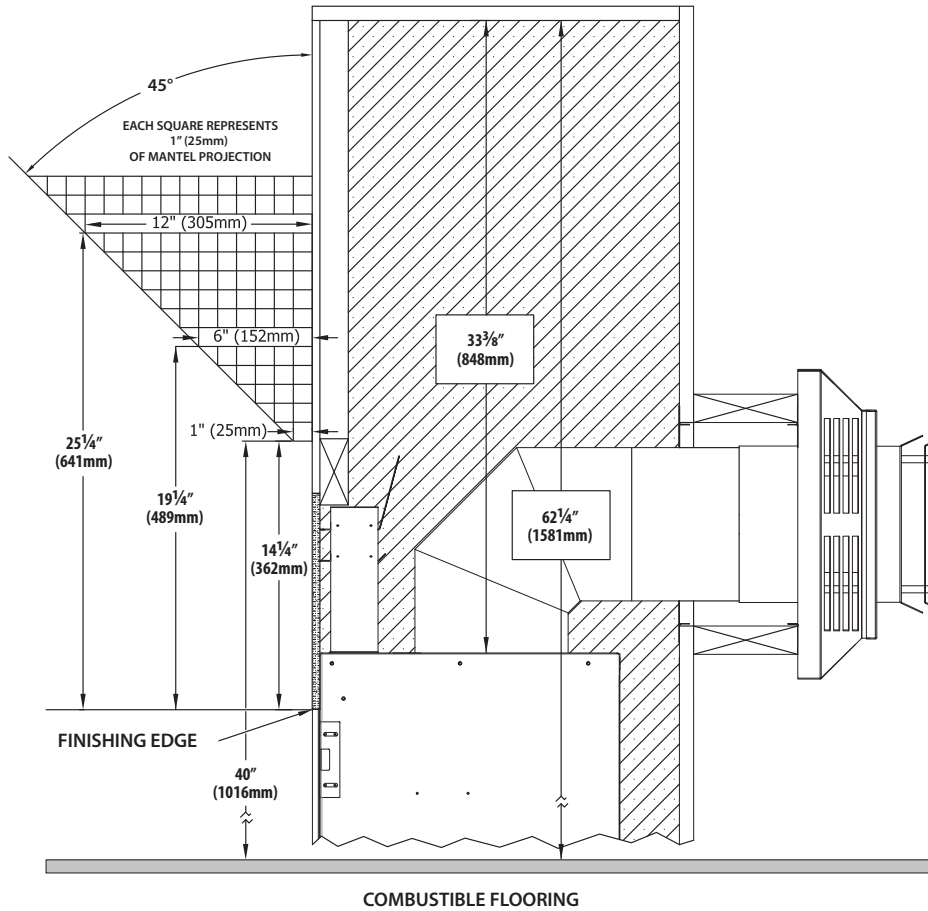

Figure 5.1, Mantel Clearances
- Combustible Mantel Projections - As referenced in Figure 5.1 (page 24), the 1" (25mm) mantel can start at 14-1/4" (362mm) above the finishing edge. Mantel projections can increase 1" (25mm) of depth for every 1" (25mm) of height starting at the 1" (25mm) mantel.